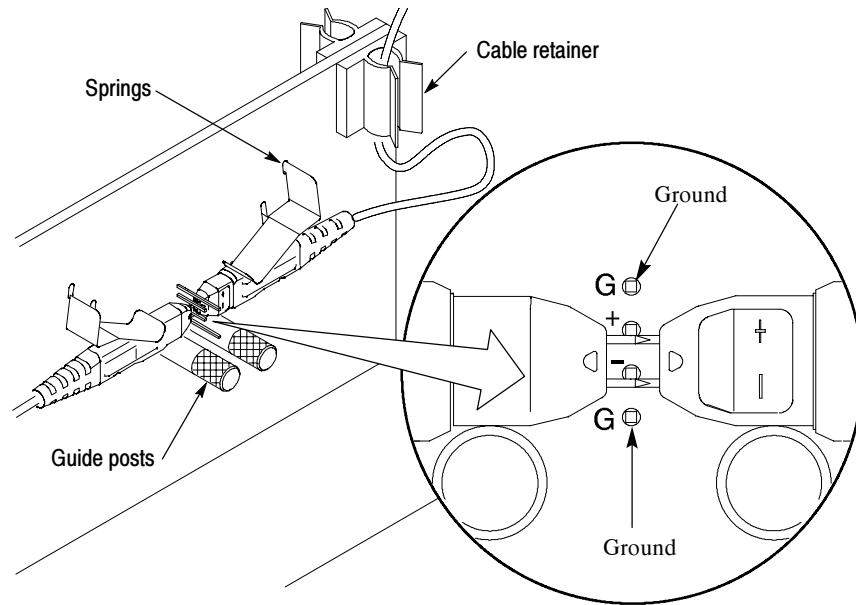

Figure 3: P6246, P6247, P6248, P6330, or P7330 fixture connections
4. All probe tips should contact the SKEW ADJUST pins at the center of the probe tips. See Figure 3 on page 5.